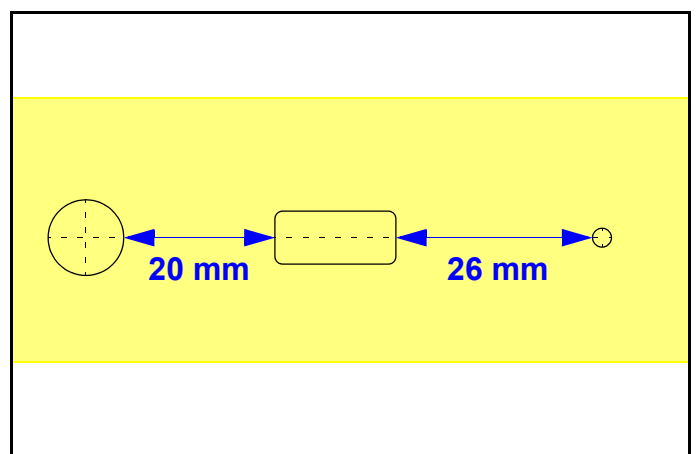

Fig.54: Distances between the holes.
- draw, on each strip, the hole for the wing rod (diameter **10 mm**), the hole for the servo connection (**16 x 7 mm**) and the little hole for the wing alignment pin (diameter **2.5 mm**) at the distances shown in figure 54;